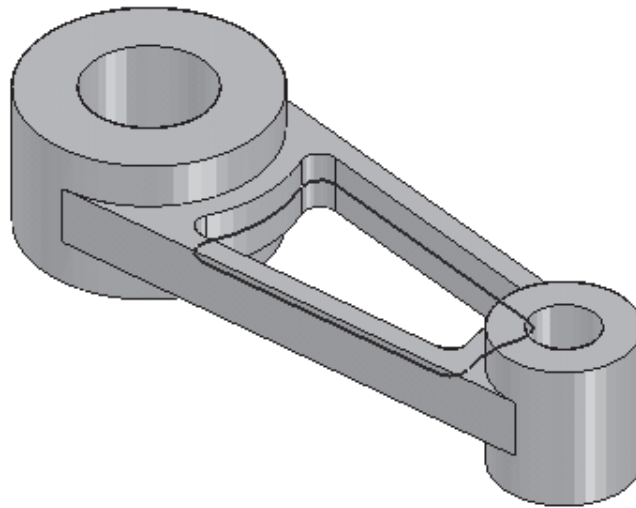

Figure 4-72 Model after creating the cutout
- Create a cutout in the second feature using the sketch, refer to Figure 4-72.
5. Exit the **Cutout** tool. The model, after creating the cutout, is shown in Figure 4-72. This figure also shows the sketch because its display is not turned off.